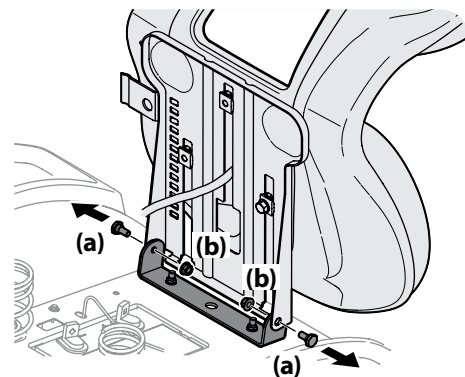

Figure 2-2
2. Remove the two shoulder bolts (a) and flange lock nuts (b) in the seat pan as shown in Figure 2-2.